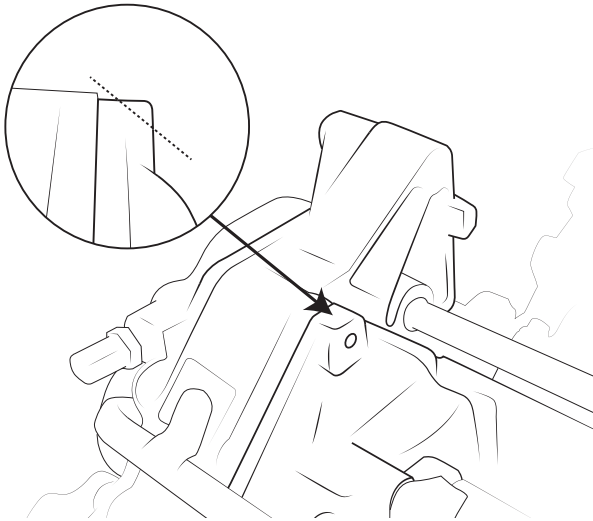

Figure 15
5. Remove the intake manifold on a 6.4L (refer to the factory service manual). Use a grinder to bevel the engine block as shown in Figure 15. Verify by "dry-fitting" the AEV intake manifold to check for clearance BEFORE final installation. Once clearance has been verified, change the water pump (sourced from 2011 and newer engines) and install AEV intake manifold.
- c. There are ten (10) seals on the bottom of the manifold, one (1) between the intake manifold actuator and intake, and one (1) between the throttle body and intake. Be sure all seals are properly installed.